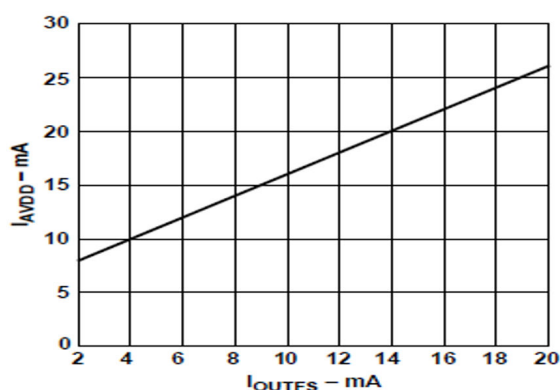

Figure 19.  $I_{AVDD}$  vs.  $I_{OUTFS}$
The power dissipation, PD, of the 3PD9708(E) is dependent on several factors, including: (1) AVDD and DVDD, the power supply voltages; (2) I\_OUTFS, the full-scale current output; (3) f\_CLOCK, the update rate; (4) and the reconstructed digital input waveform. The power dissipation is directly proportional to the analog supply current, I\_AVDD, and the digital supply current, I\_DVDD. I\_AVDD is directly proportional to I\_OUTFS, as shown in Figure 19, and is insensitive to f\_CLOCK.